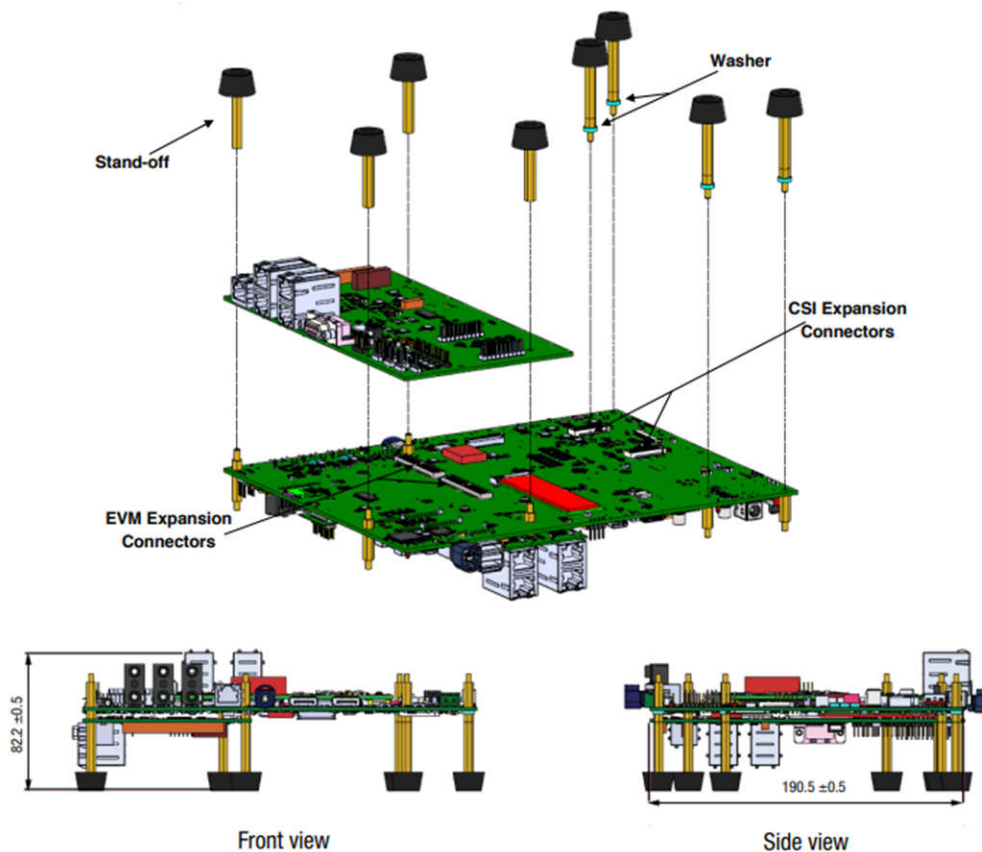

Figure A-1. Installing the Automotive Gateway/Ethernet Switch/Industrial Expansion Card Onto the Common Processor Board
1. Remove the stand-offs (8x) from the EVM. Mate the expansion card to the common processor board expansion connectors (see Figure A-1 left).
3. If a CSI expansion board is not connected to the CSI expansion connectors on the common processor board, add a 2mm thick washer to each of the four stand-offs (see Figure A-1 right) on the common processor board. Washers are included in the kit.